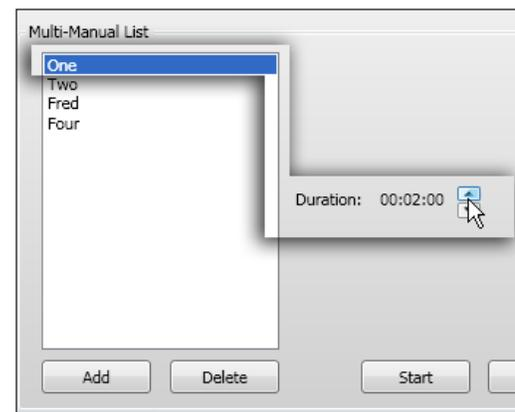

Figure 2.35
- Click on the zone number/name to highlight. Select the amount of zone run time using the scroll arrows. Repeat to assign a run time duration for each zone on the list (as required) (Figure 2.35)